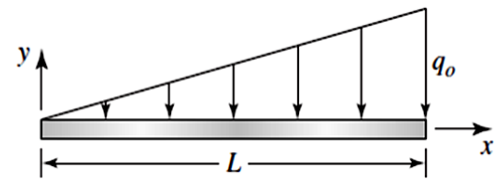

Fig. 3
5. (a) The beam element shown in Fig. 3 below is subjected to a linearly varying load of maximum intensity q_0 . Using the work-equivalence approach, determine the equivalent nodal forces and moments.